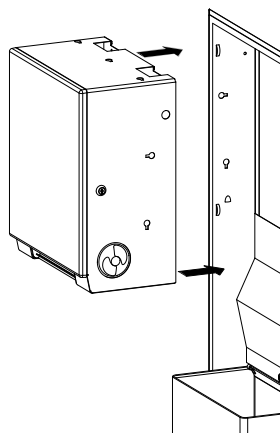

Figure 2
2. Carefully slide new Roll Towel Dispenser Module into the cabinet and support it from underneath with one hand. (See Figure 2)